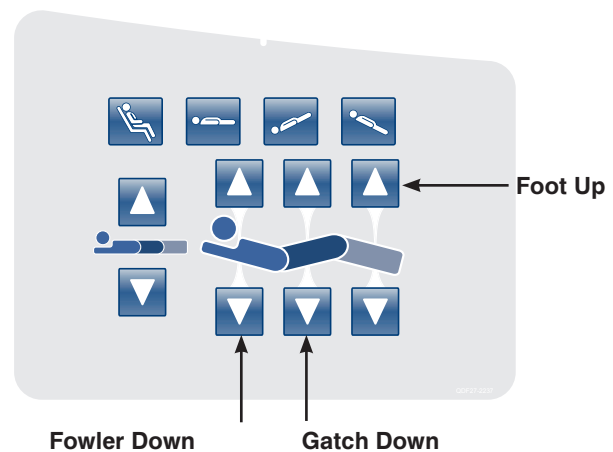

Figure 6: HE Siderail Control Panel - (Right Side Shown)
4. Place the Litter surface to a flat position by pressing simultaneously the **Foot Up**, **Fowler Down** and **Gatch Down** buttons as shown in Figure 6.